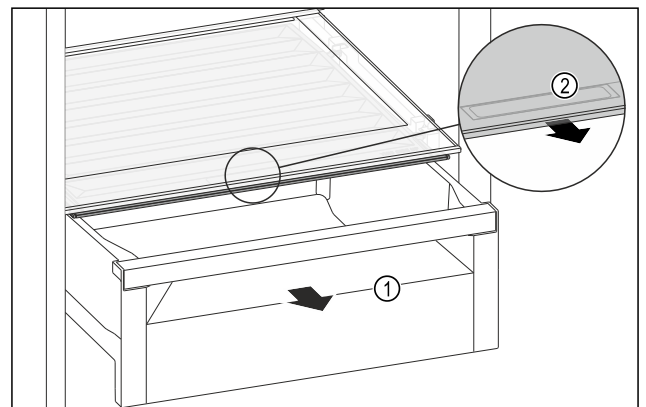

Fig. 218
- ▶ Pull out the drawer Fig. 218 (1).
- ▶ Grasp the recessed grip Fig. 218 (2) on the compartment lid and pull the compartment lid forwards at the same time.